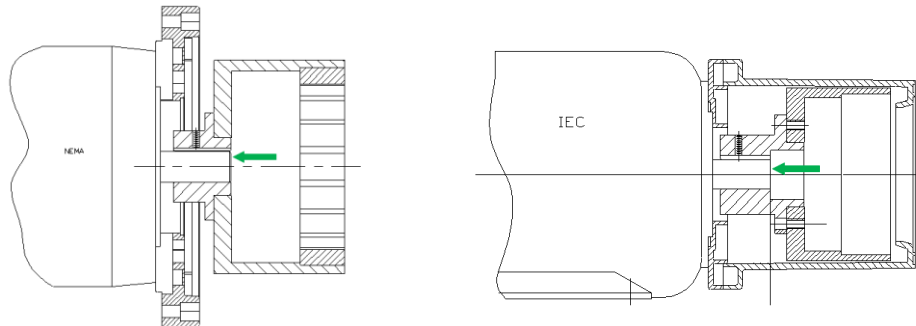

Figure 18
17. Align the keyway and slide the drive magnet onto the motor shaft until the end of the motor shaft is flush with face of the drive magnet motor or hub as shown in Figure 18. Secure with the setscrew. Application of a no-seize compound on the shaft and key will make future maintenance easier.